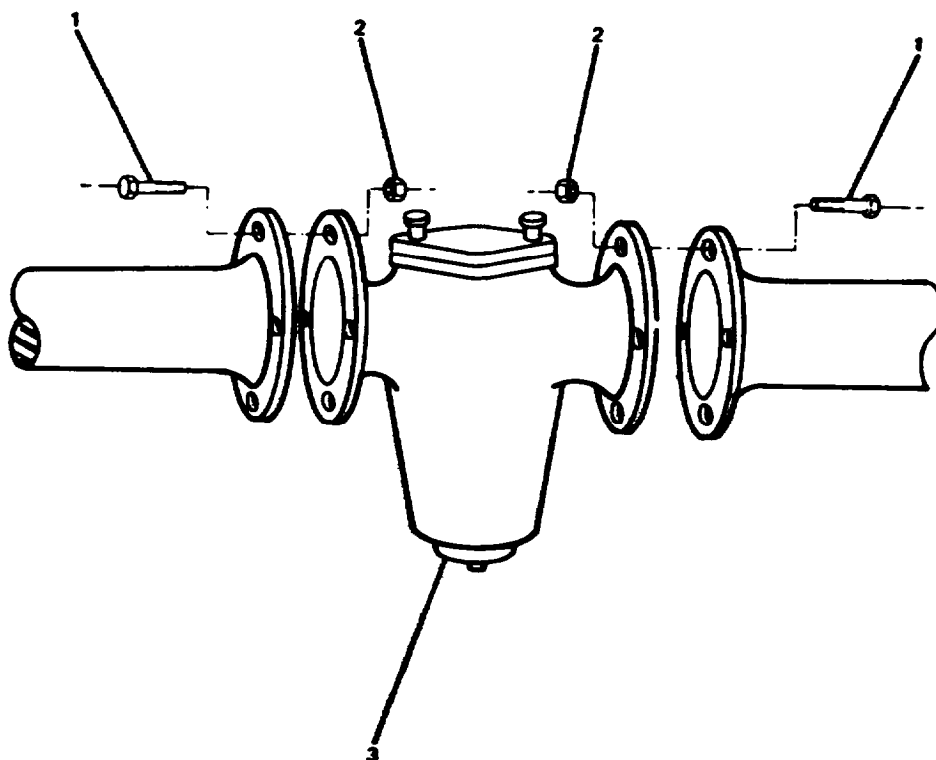
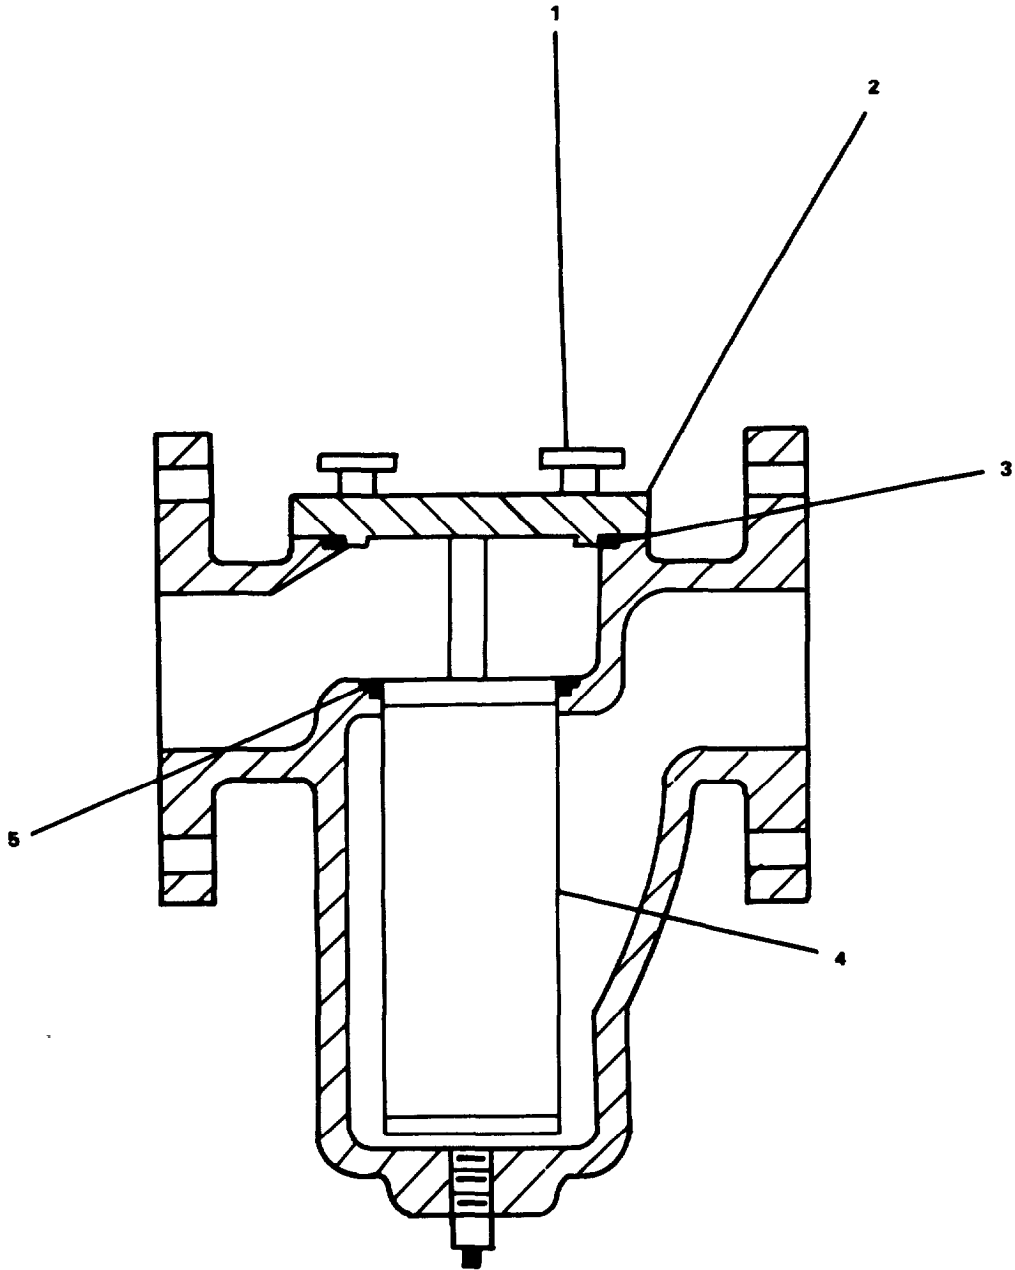
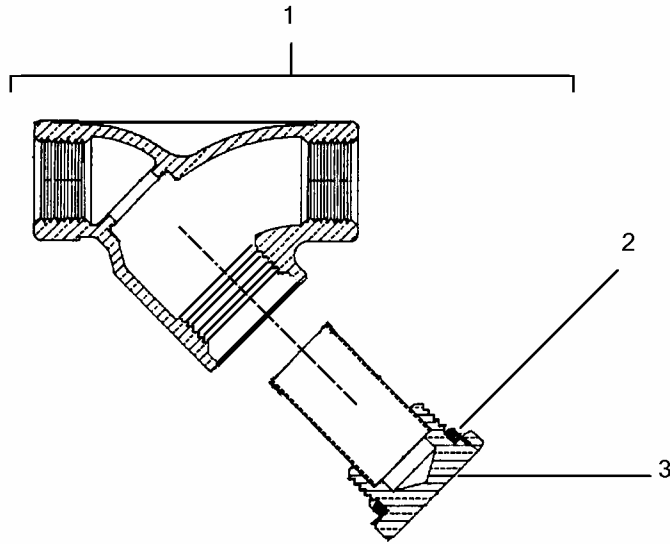

FIGURE 2-246. 2-1/2 Inch Sediment Strainer Basket, Removal.
FIGURE 2-247. 2-1/2 Inch Sediment Strainer Basket, Repair.
Figure 2-247A. Strainer, 1/2 Inch Wye (Typical).
- a. Place a drip pan under 2-1/2 inch sediment strainer (3, FIGURE 2-246).
- b. Remove flange nuts (2) and bolts (1).
- c. Remove sediment strainer (3).
- a. Turn knob (1, FIGURE 2-247) and remove cover (2).
- b. Remove cover gasket (3).
- c. Remove sediment strainer element (4).
- d. Remove basket gasket (5).
- a. Install basket gasket (5, FIGURE 2-247) and basket (4) in sediment strainer.
- b. Install cover gasket (3) and cover (2).
- c. Tighten knob (1).
- a. Install 2-1/2 inch sediment strainer (3, FIGURE 2-246) and attach with bolts (1).
- b. Install nut (2) and torque to 50 ft-lb (68 N•m).
**2-317.1. Strainer, 1/2 Inch Wye. (FIGURE 2-247A)**